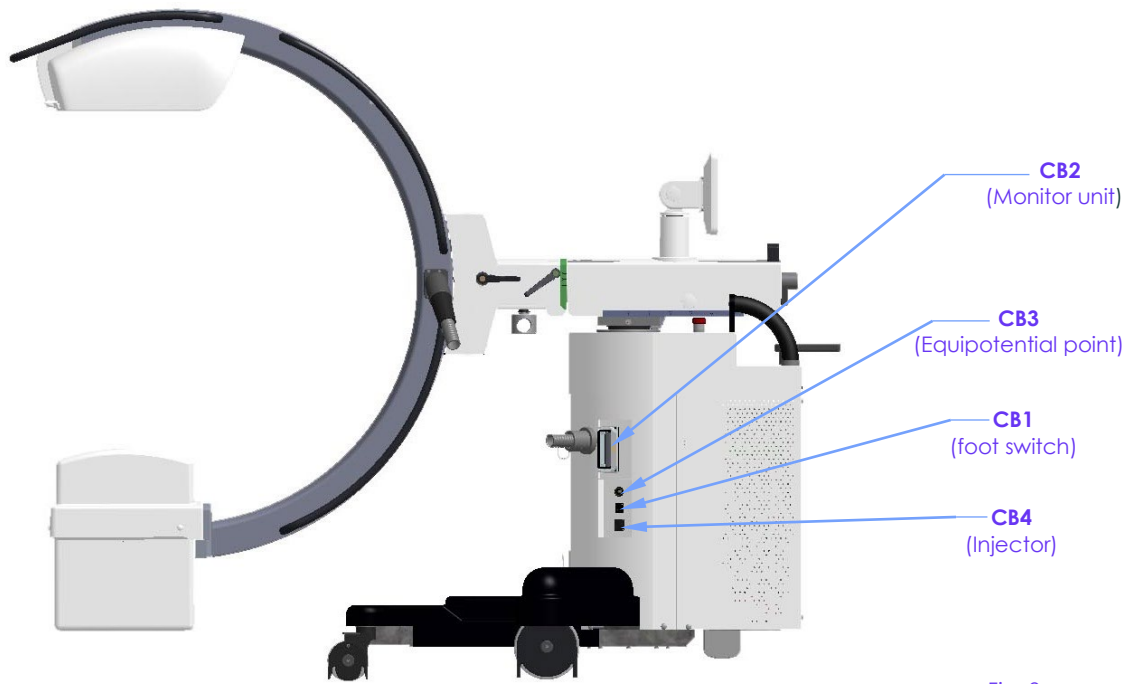

Fig. 9
- Connect the monitor unit to connector **CB2** on the stand (see Fig.9 above).
- Connect the footswitch cable to connector **CB1** on the stand (see Fig.9 above).
- Connect the injector cable to connector **CB4** on the stand (see Fig. 9 above).